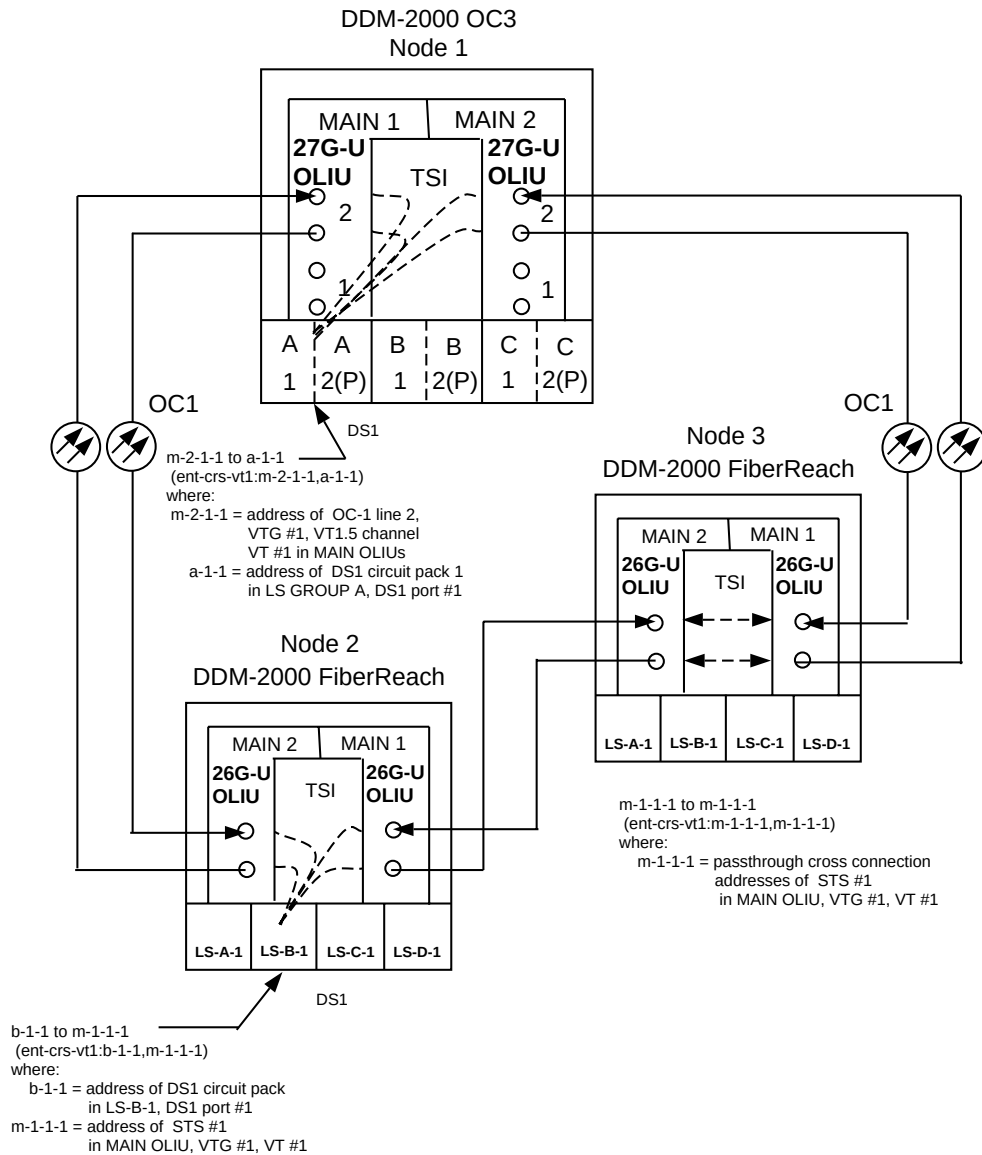

Figure 4. Example of Stand Alone OC-3/OC-1 Cross-connections
At all nonterminating nodes in the network, use the **ent-crs-vt1:** command to provision pass-through connections. [For example, in Figure 4, node 3, to make the DS1 pass-through cross-connection for channel m-1-1-1, use the **ent-crs-vt1:m-1-1-1,m-1-1-1:cct=twoway** command.
9. At the terminating (drop) nodes of the circuit being established, use the **ent-crs-vt1:** command to make the terminating cross-connections. For example in Figure 4, at Node 1, if DS1 port #1, circuit pack #1 in **FUNCTION UNITS** group **A** is cross-connected to VT1.5 channel #1, VTG #1, STS #1, OC1 line 2, then the command **ent-crs-vt1:a-1-1,m-2-1-1:cct=twoway** would be used to make the cross-connection. At Node 2 in Figure 4, the command **ent-crs-vt1:m-1-1-1,a-1-1:cct=twoway** would be used to make the cross-connection.